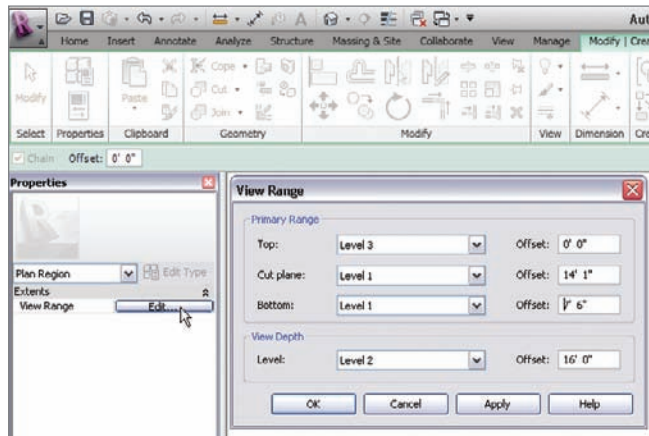

FIGURE 9.32 Changing the cut plane to 14'-1"
3. Change the Offset value for the cut plane to 14'-1", as shown in Figure 9.32.